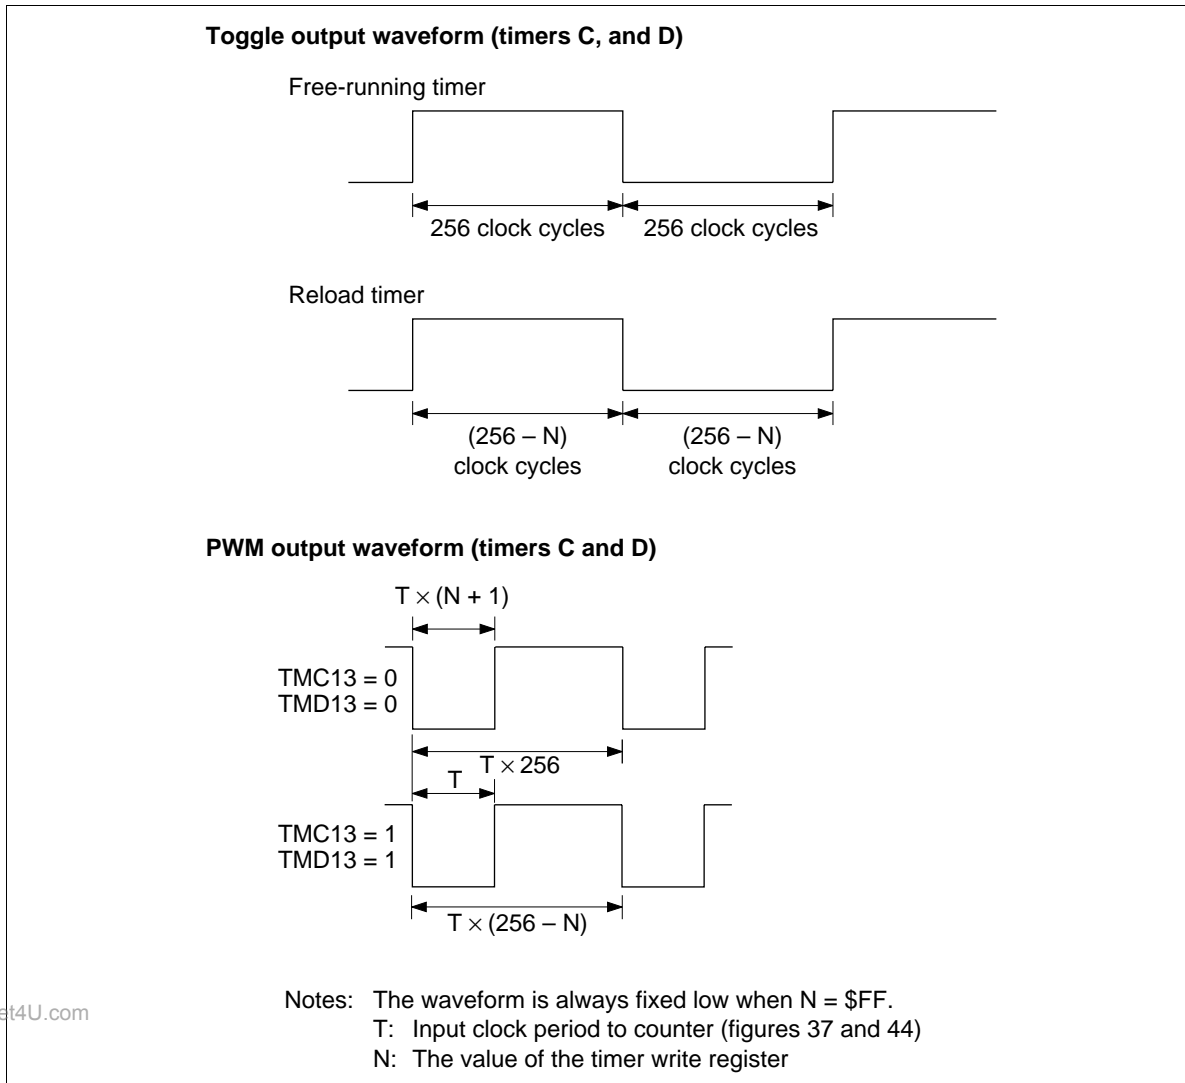

Figure 36 Timer Output Waveform
- Toggle output: When toggle output mode is selected, the output level is inverted if a clock is input after timer C has reached \$FF. By using this function and the reload timer function, clock signals can be output at a required frequency for the buzzer. The output waveform is shown in figure 36.
- PWM output: When PWM output mode is selected, timer C provides the variable-duty pulse output function. The output waveform differs depending on the contents of timer mode register C1 (TMC1: \$00D) and timer write register C (TWCL: \$00E, TWCUC: \$00F). The output waveform is shown in figure 36.